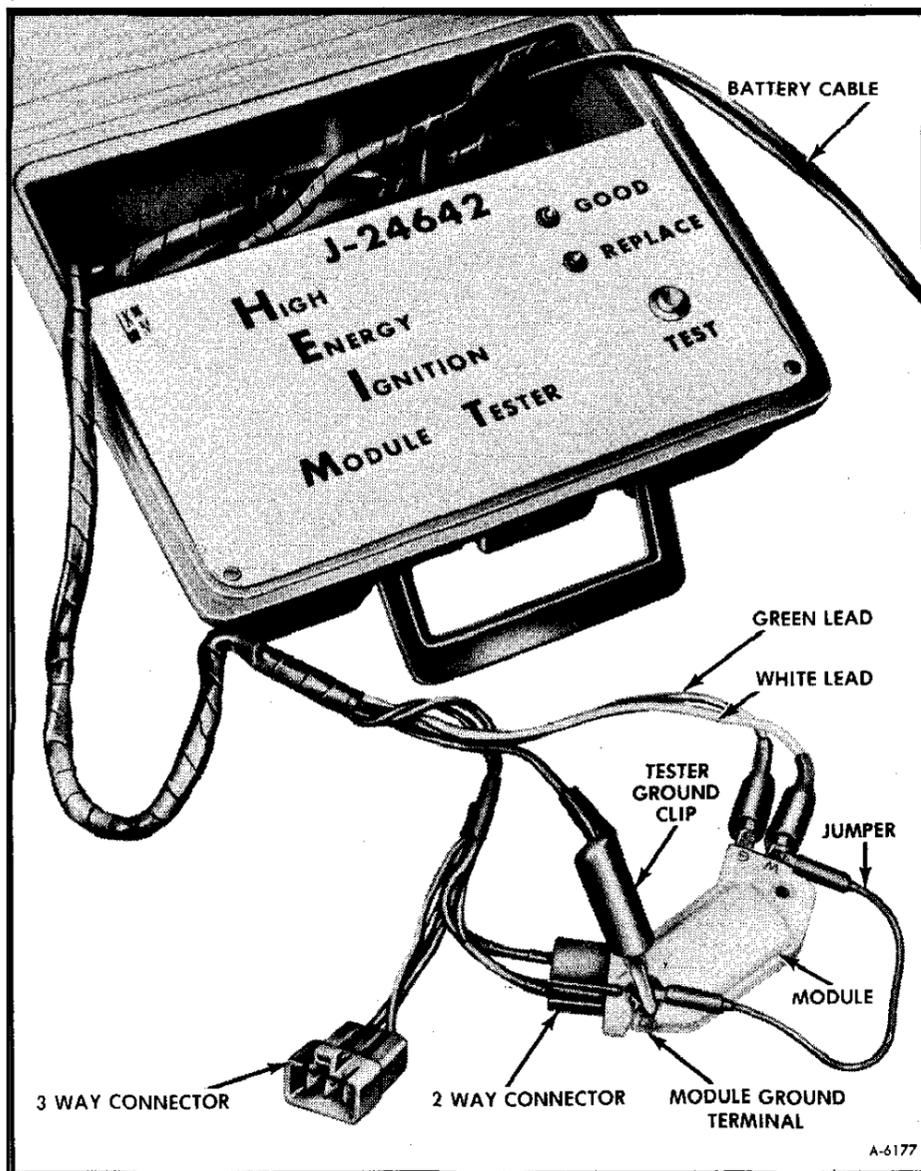

Figure 6—Check No. 3 with J-24642-101
1. To the setup of Check 2, add a jumper wire connecting the "W" and ground "G" terminal of the module as shown in figure 6.